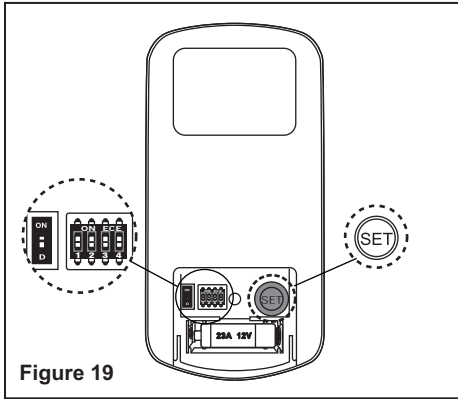

Figure 19
a) Select desired frequency from the transmitter. The dip switches can be set to 16 different combinations. (Fig. 19)
b) From the back of the transmitter, with the fan’s power off, restore power to the fan. Press and hold “SET” button for about 5 seconds and release. If optional light kit is installed, the light kit will flash twice and the signal light on the hand held transmitter will come on when the button is pressed. The fan has completed the pairing process with the remote control and is ready for use. (Fig. 19)
1. The “ON” selection is the light dimmable selection and is to be used with all bulbs except for CFL bulbs. The “D” selection is the light ON only (no dimming function) and is to be used with CFL bulbs as CFL bulbs in most cases cannot be used with dimming controllers. (Fig. 19)